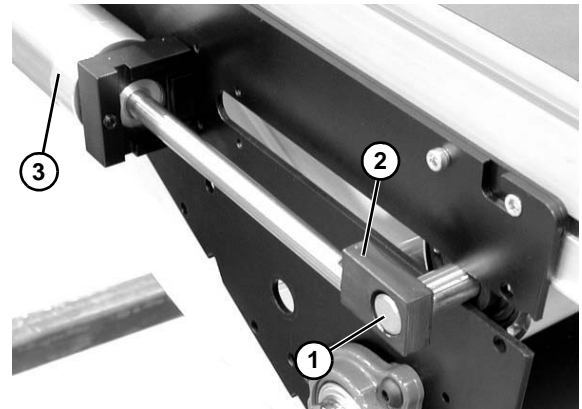

Figure 38
- Push shaft (Figure 38, item 1) through block (Figure 38, item 2) on opposite side of center drive, slide block toward air cylinder (Figure 38, item 3).